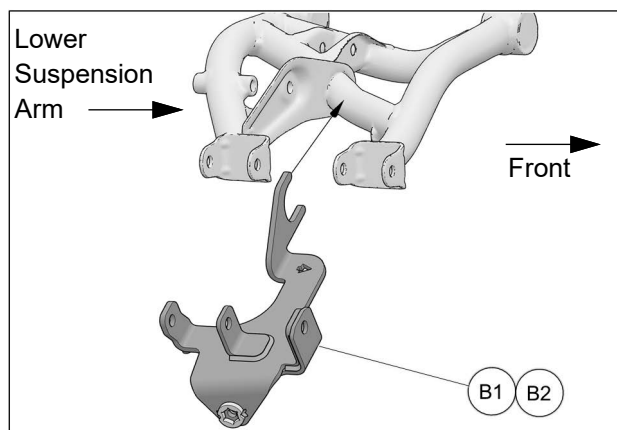

Fig. 5
- Hook the back end of anchor bracket (B1-B2) on cross-member of lower suspension arm. See Fig. 5